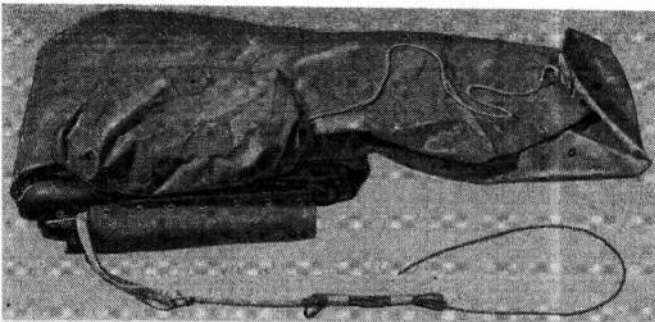

Fig. 7. Second lateral fold
19. Turn the stern end of the dinghy over the bow end so that the folded edge is approximately 1 in. beyond the end of the operating head (*fig. 7*) and turn it back on itself to complete the folding (*fig. 8*). The dinghy should now be about the same dimensions as the inside of the pack.